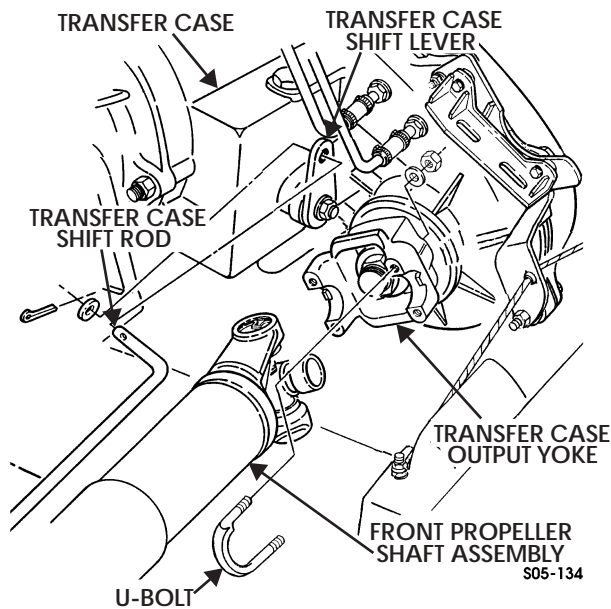

Figure 5-188: Propeller Shaft to Transfer Case
2. Remove four nuts, washers, two U-bolts, and front propeller shaft assembly from transfer case output yoke (Figure 5-188).